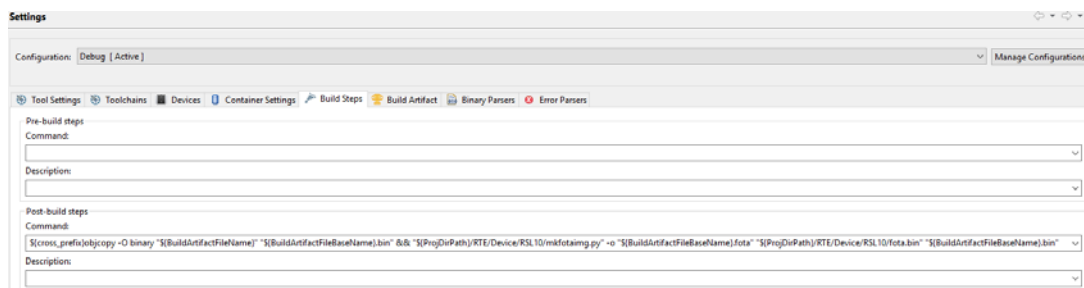

Figure 16. Post-Build Steps
7. Modify the project post-build steps (Figure 16) to generate the FOTA image in both Debug and Release build configurations, by going to **Project > Properties > C/C++ Build > Settings > Build Steps > Post-build steps**. Two steps are required to generate the .fota image. First, we need to generate the application sub-image .bin file using *objcopy*. Then, we use the *mkfotaimg.py* tool to generate the FOTA image (.fota file). Both commands can be concatenated with "&&" and added to the post-build steps as in the example that follows. To use this command, copy the code from the Post-Build steps of the existing sample application *ble_peripheral_server_hrp_fota*., as the code in the text below is not directly copyable.